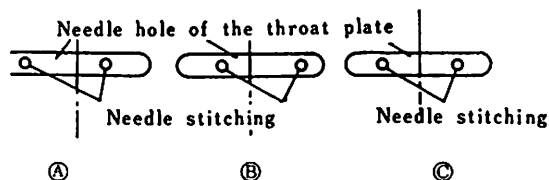

Fig. 16
Next, to adjust the position of the needle drop, as shown in Fig. 16, the needle should be so adjusted that it will drop not too far to left ④ or too far to right ⑤ but should throw uniformly to the center ③. This is the correct position of the needle drop position. To adjust to this correct position, loosen the eccentric shaft set screw ① and if the eccentric shaft ② is rotated by a screw driver, the needle will lean to right or left, so adjust with this eccentric shaft.